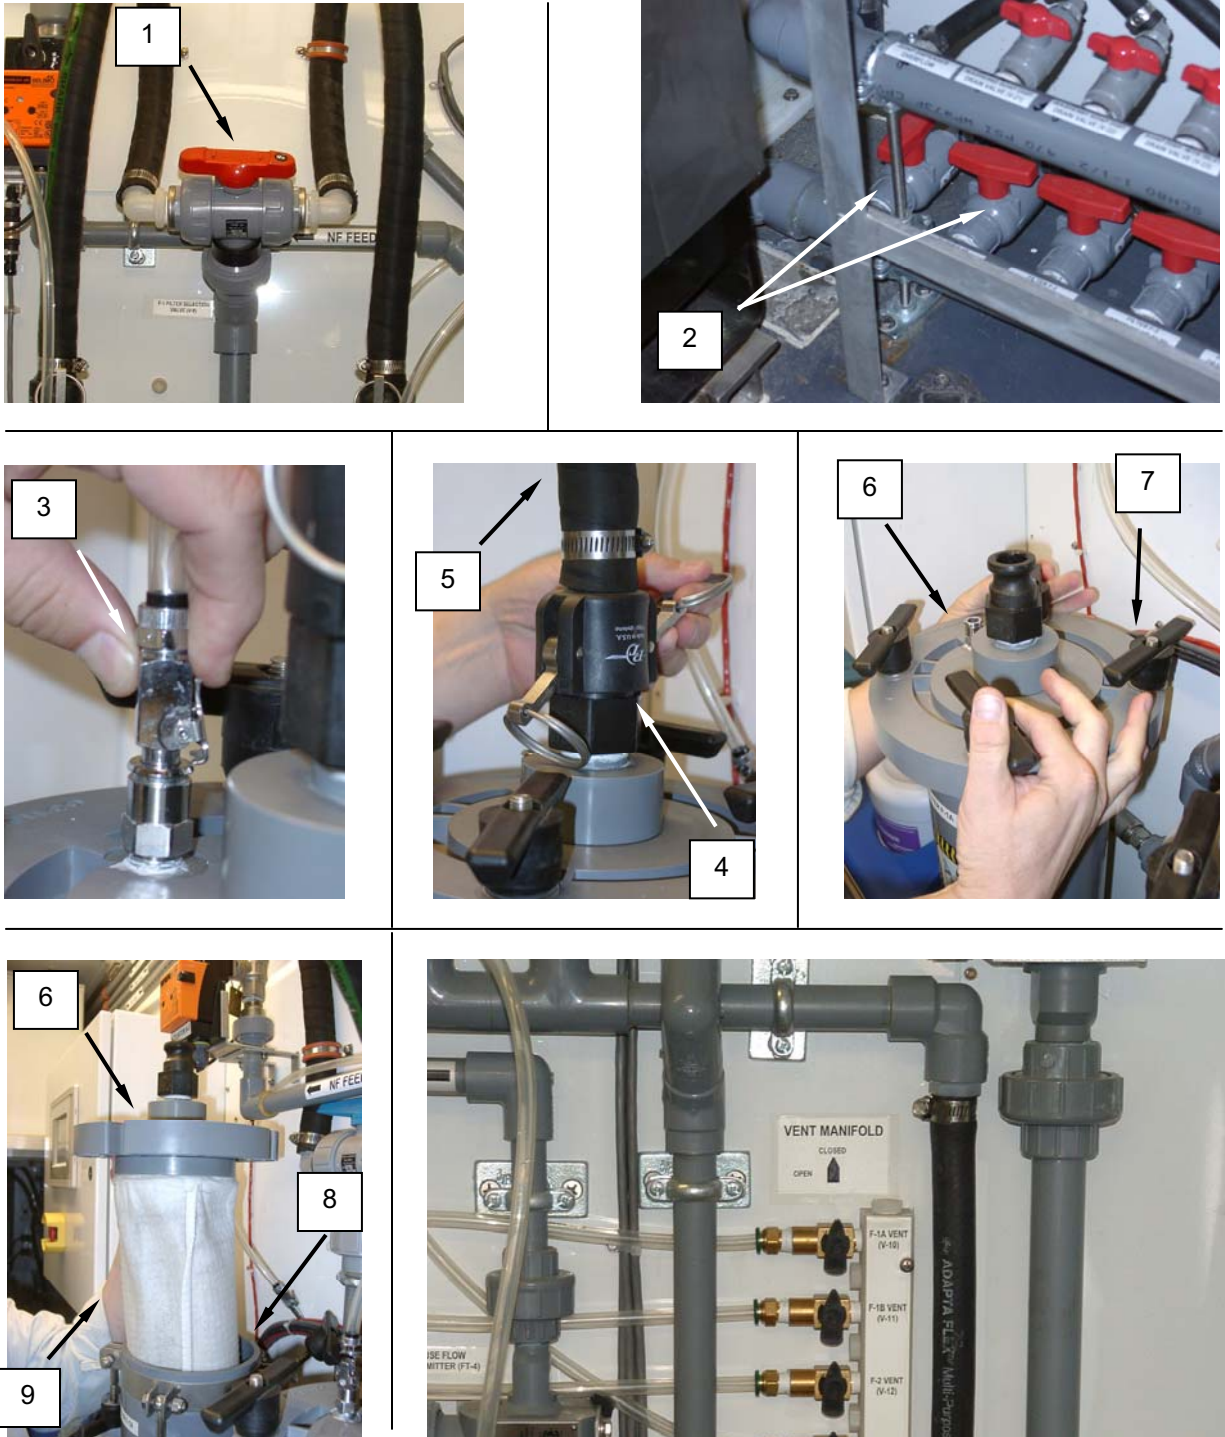

Figure 1. Inspect the Filter Elements (Socks).
4. Disconnect the filter vent hose (**Figure 1, item 3**).
6. Disconnect the QD fitting (**Figure 1, item 4**) and hose (**Figure 1, item 5**) from the filter cap (**Figure 1, item 6**).
7. Loosen and remove the knobs (**Figure 1, item 7**) securing the filter cap (**Figure 1, item 6**) to the filter housing (**Figure 1, item 8**), and remove the filter cap, with filter (**Figure 1, item 9**), from the filter housing.
8. Inspect the filter fabric (**Figure 1, item 9**) for unraveling threads at the sock seam, and for thinning or wear of the filter fabric.